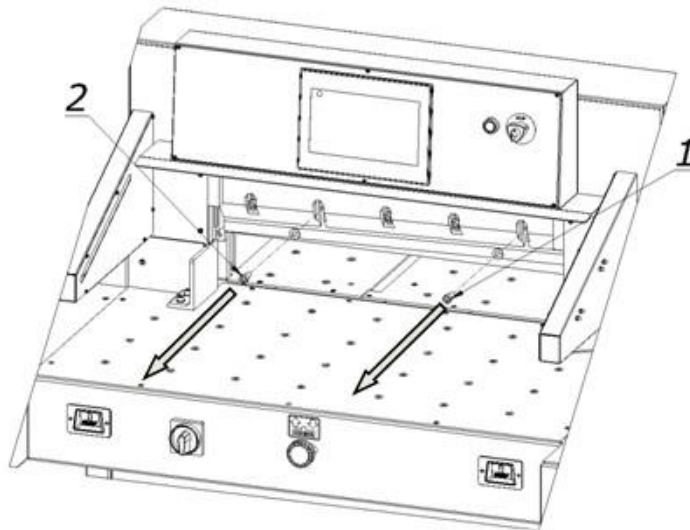
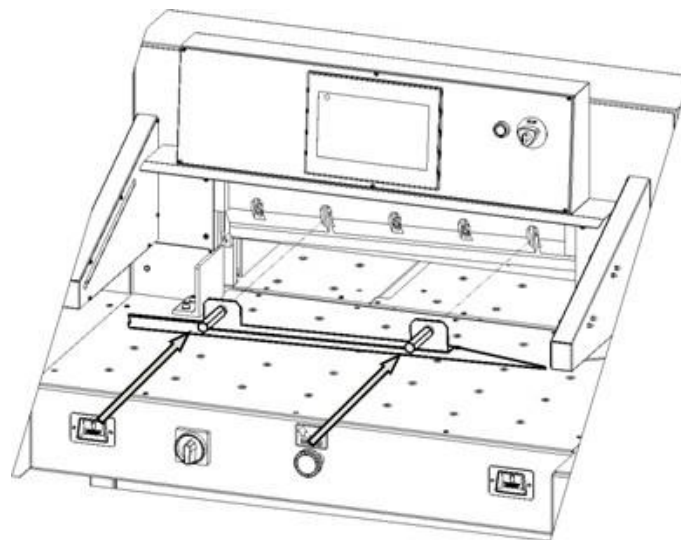

Figure 23.
Figure 24.
10. Unscrew and remove the fastening screws 1 and 2 (Fig. 23).
11. In the place of screws 1 and 2 removed (fig.23), screw in the transport handle 1 (fig.24).